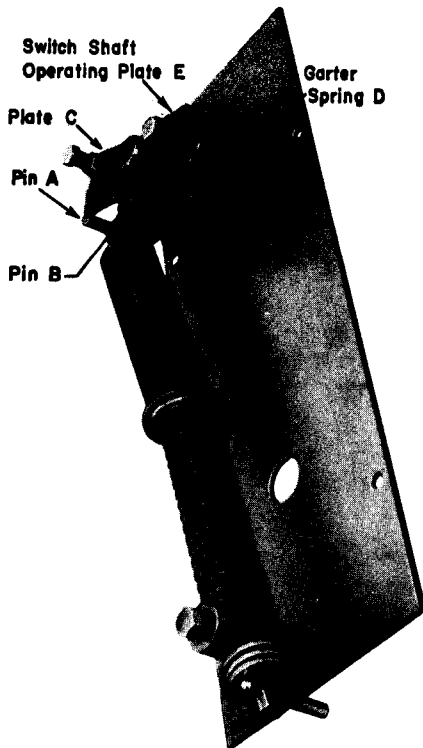

Fig. 4
All spring operators are assembled with pin (B), operating plate (C), and garter spring (D), (Fig. 3) used for motor operation which is described later. For straight manual operation, plate (C) is free on the stub shaft and serves only as a spacer between the sprocket crank and the switch shaft-operating plate (E) shown added to the assembly in Fig. 4.